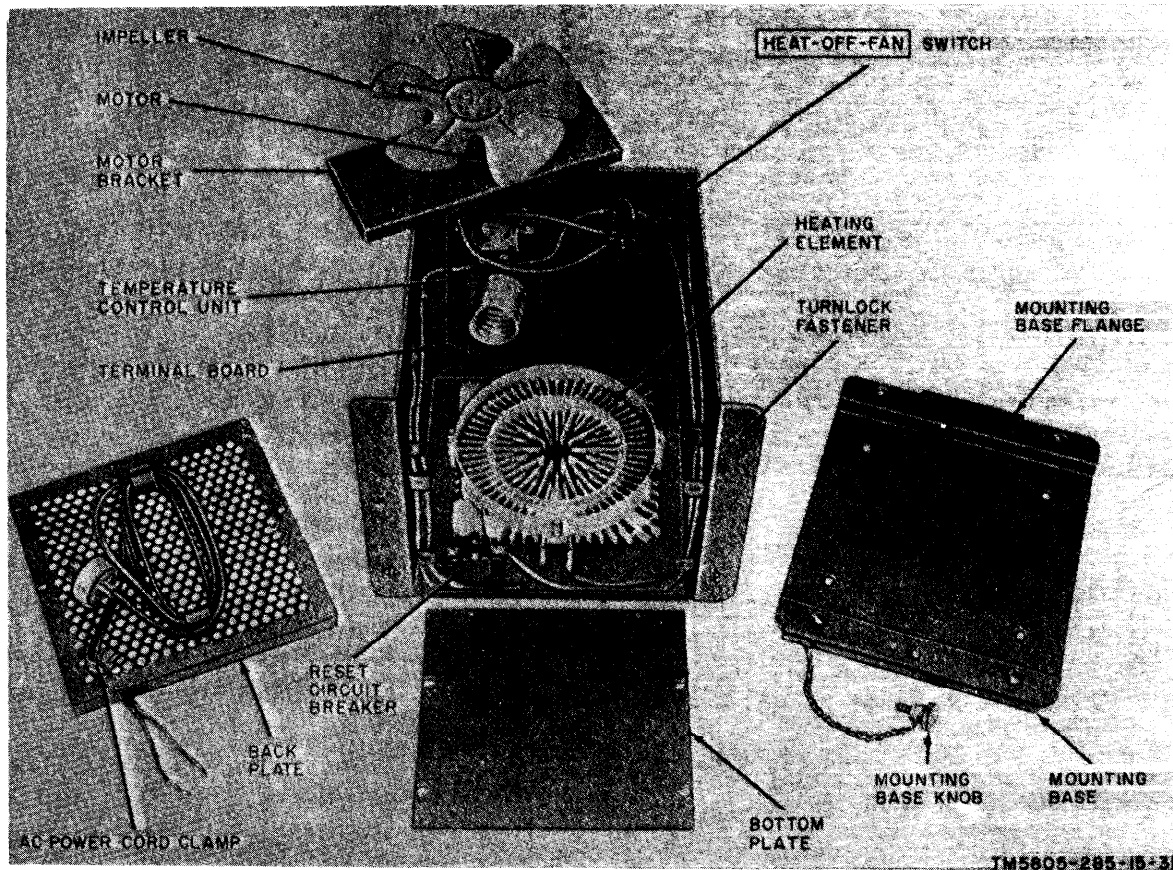

Figure 4-2. Electric heater, disassembled.
(fig. 4-2)
- (1) Loosen the screws that secure the power cord leads to terminal board TB1 (fig. 4-2).
- (2) Pull the power cord out of the clamp in the backplate.
- (3) Insert a new power cord through the clamp in the backplate.
- (4) Connect the leads to terminal board TB1.